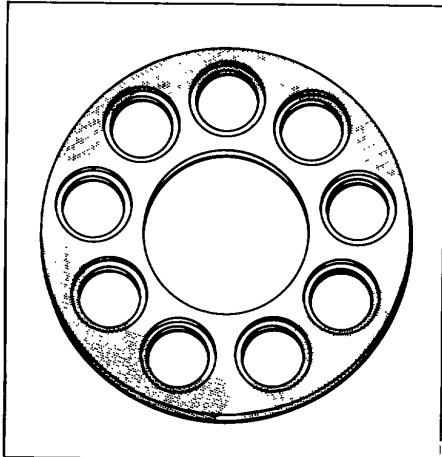

Figure 140.
Inspect piston return plate (19) for heat discoloration or cracks. Check for flatness. If discolored, cracked or distorted, replace with a new return plate. See Fig. 140.
12. Install piston assemblies (18) in piston return plate (19). Used pistons must be so positioned in